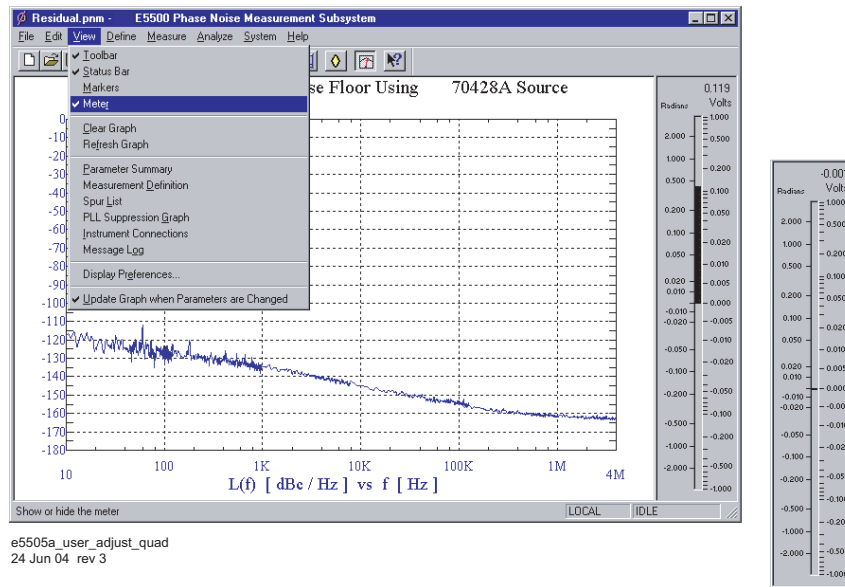

Figure 151 Adjust for quadrature
- 7 After you complete the measurement set up procedures and begin running the measurement, the computer will prompt you to adjust for quadrature (Figure 151 on page 212). Adjust the phase difference at the phase detector to 90 degrees (quadrature) by either adjusting the test frequency or by adjusting an optional variable phase shifter or line stretcher. Quadrature is attained when the meter is set to center scale, zero.